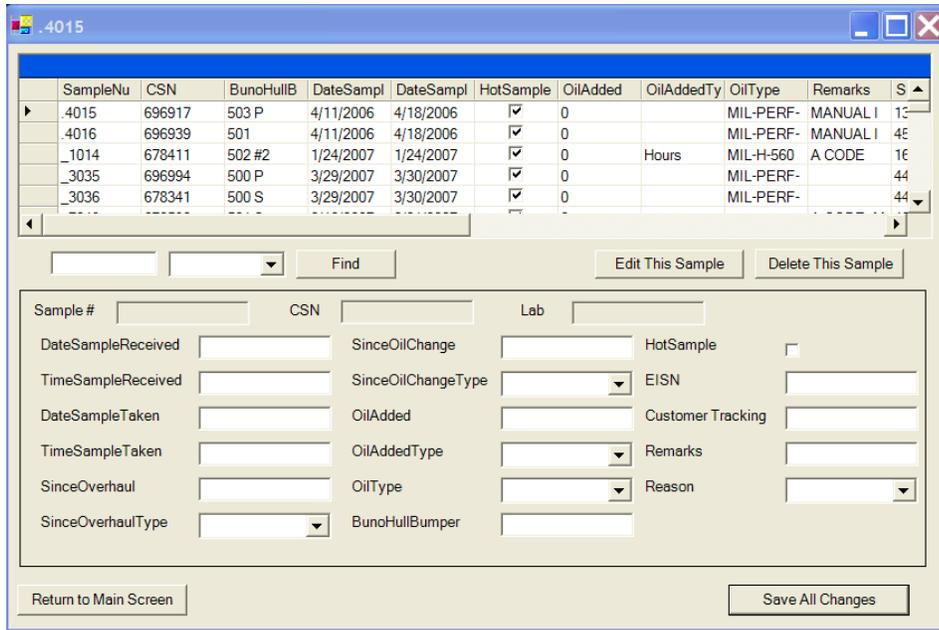

Figure 91. Sample Options
- (1). Press sample options and the following screen will appear (Figure 91).